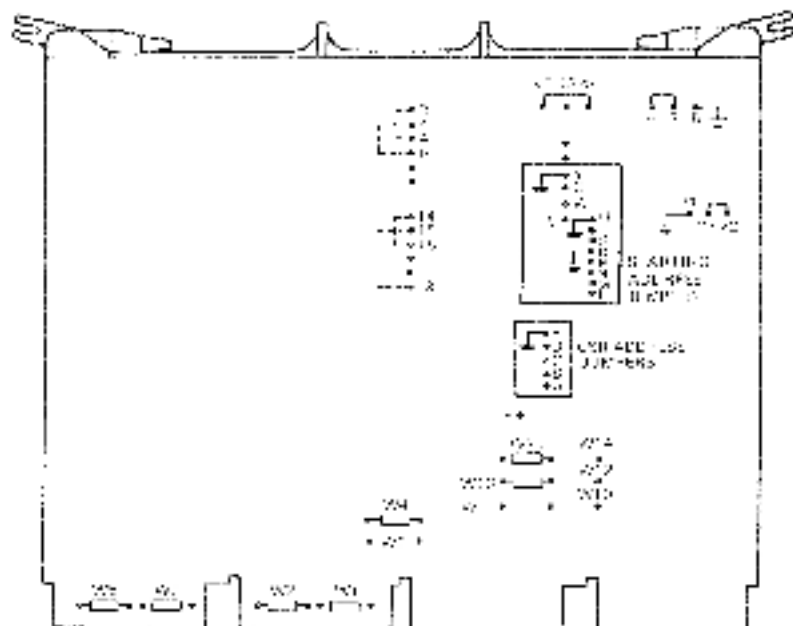

Figure 2-4 MSV11-P Module Layout.
The MSV11-P memory module is configured by means of jumpers and wire-wrap pins. The -PK and -PL models have the same factory configuration. Figure 2-4 shows the location of jumpers and wire-wrap pins and Table 2-13 describes their function.
2.6.1.1 CSR Address – Figure 2-4 shows the CSR address jumpers on the MSV11-P. Table 2-14 lists the CSR address and corresponding jumper configurations for each memory module added to the system. The table is applicable to both the -PK and -PL models.